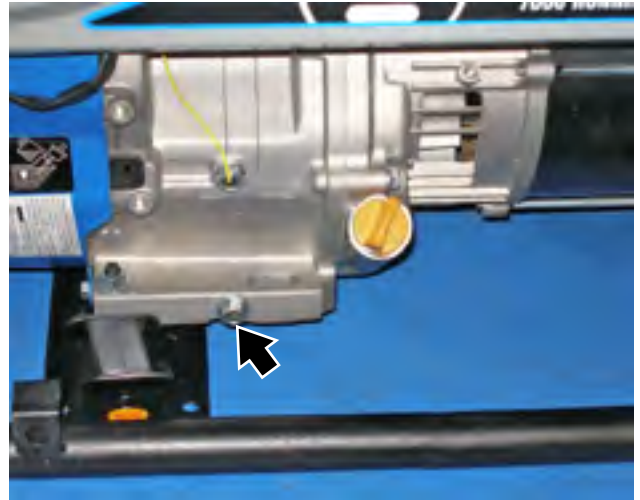

Figure 29 – Oil Drain Plug
5. Remove the oil drain plug (see *Figure 29*). Once removed, place the oil drain plug on a clean surface.